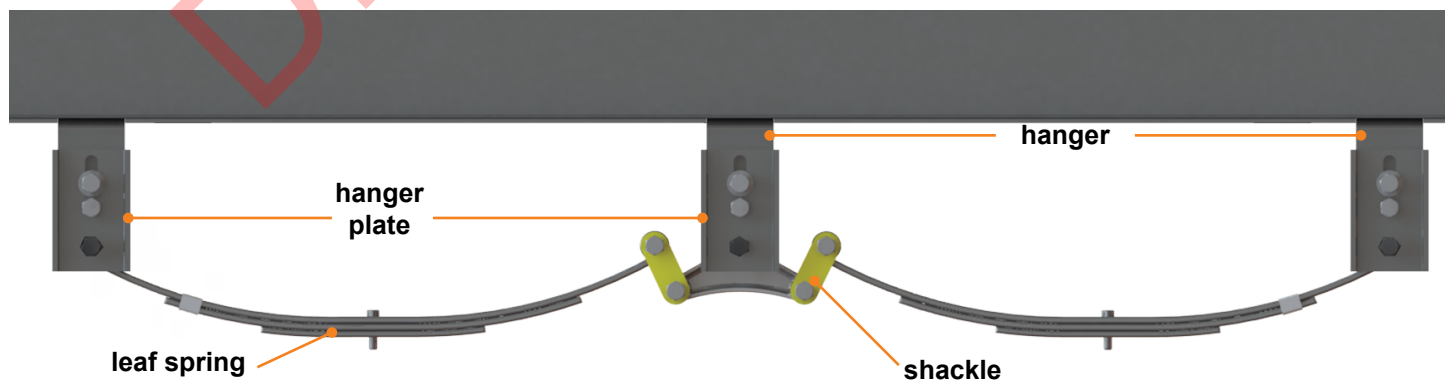

Fig.12
to the ground. Make sure the shackle links are upright and located approximately in the 10 o'clock and 2 o'clock positions (Fig.12).
17. Reference Fig.12 for the completed installation of the LCI Tandem 2.0" Lift Kit.